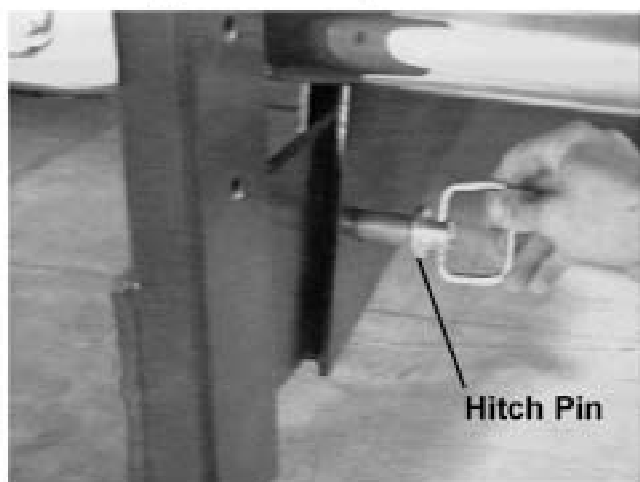

Figure 15
3. Install two 3/4" pins through subframe and secondary frame. See Figure 15.